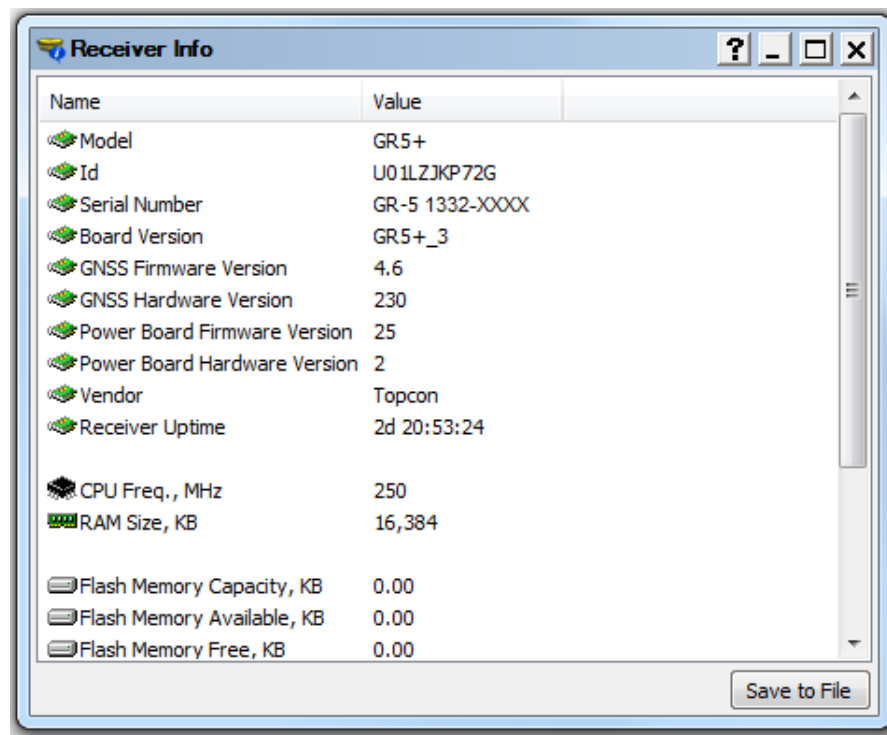

Figure 17: SRU – Receiver Info
6. In the SRU main window, click the **Information** icon. The **Receiver Info** window (Figure 17) appears.